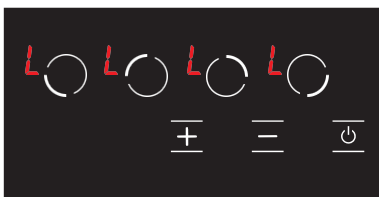

Figure 17
1. The  icon is displayed on all displays when the Hob is on and the child lock is active. (see Fig. 17) The  and  icons are displayed alternatively if any hob is hot. You may turn the Hob on or off with the  key only.